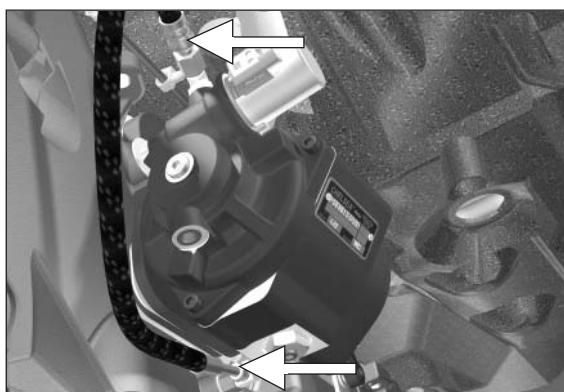

Figure 57
15. Connect hose (Transmission-to-PTO Valve) to the fitting on the transmission. Route as shown in **Fig. 57**. Hold hose fitting in desired position and tighten lock nut with a wrench until solid feeling is encountered. From that point, apply one-sixth turn. Next, connect the other end of the hose to fitting on the PTO valve cap. Tighten until solid feeling is encountered. From that point, apply one-sixth turn.